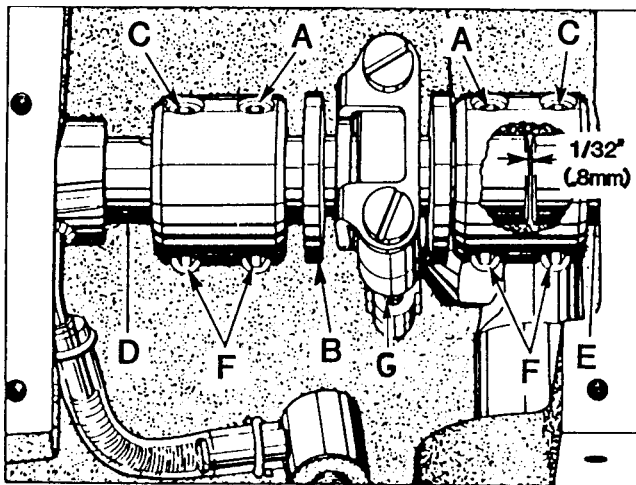
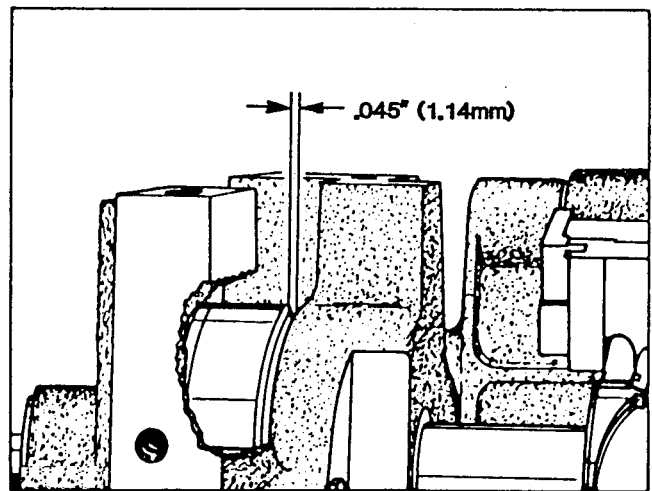

Fig. 16
Fig. 17
As viewed looking down from rear of machine, spot screw (A, Fig. 16) in the couplings must align with the spots in the looper drive crank (B) and set screws (C) must align with the flats on crankshaft (D) and mainshaft (E). Mainshaft must be positioned laterally with .045 inch (1.14nun) clearance between the right side of its head and the bed casting as shown (Fig. 17).
Looper drive crank (B, Fig. 16) must be positioned laterally so that strap (G, Fig. 16) is vertical and 1/32 inch clearance is maintained between end of crank and end of mainshaft (E) as shown. Once these settings are made, it is very important that the couplings are tightened in the following sequence for best performance.